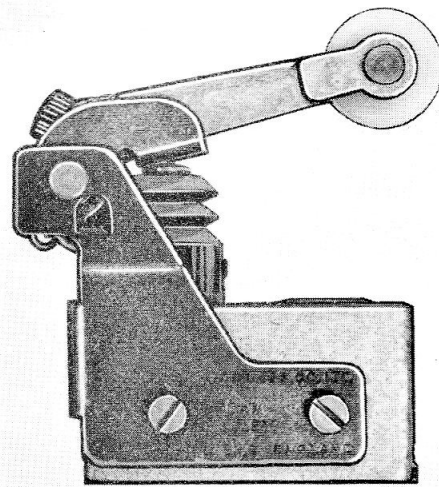

Fig. 3. Auxiliary actuator, Type CB539
2. Auxiliary actuators, Type CB, a typical illustration of which appears in fig. 3, can be fitted to some micro switches to enable them to be operated by fast cams or slides on applications requiring low operating force, accurate repeat performance and generous over-travel.